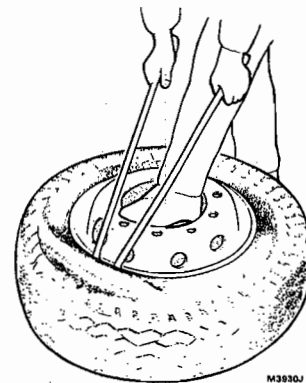

FIG. 3. REMOVING FIRST BEAD
4. Remove the first bead using the levers as for normal car tyres, Fig. 3.